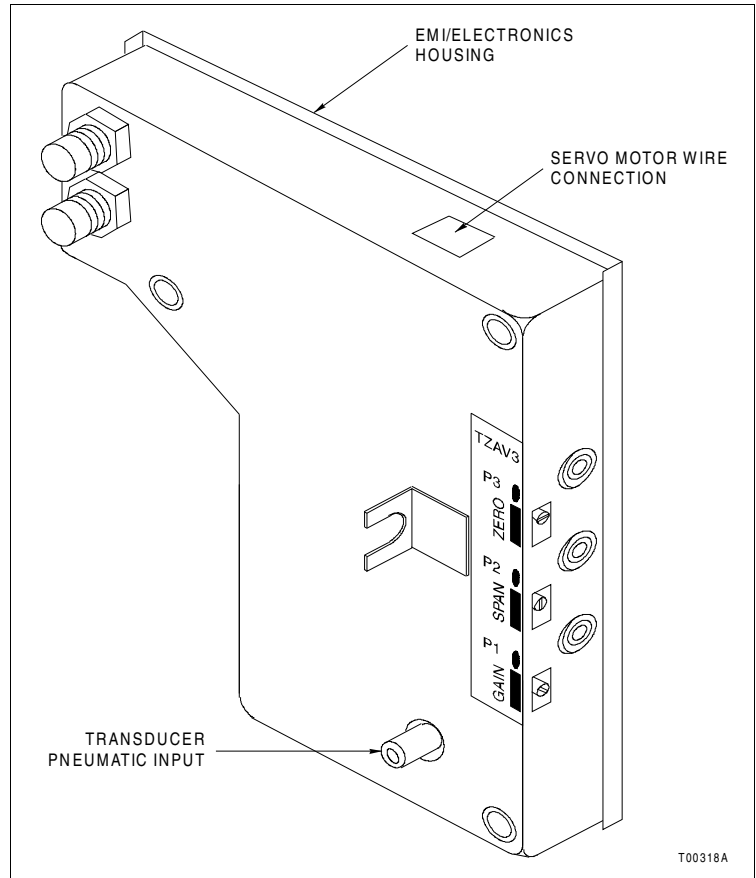

Figure 4-8. Type AV3 Positioner EMI/Electronics Housing
- a. a. Disconnect the servo motor wires from the EMI/electronics housing (Fig. 4-8).
- b. Set the input current to 4 mA and record the setpoint voltage across P2 and P3 (Fig. 4-8).
- d. Apply a reference pressure to the transducer of the EMI/electronics housing (Fig. 4-8). Do not exceed 138 kPa (20 psig). Adjust the reference pressure to 20.3, ± 1.7 kPa (3.00, ± 0.25 psig). Connect the digital voltmeter across P1 and P3 (feedback voltage) and turn the ZERO potentiometer (Fig. 4-8) until you match within 8 mV of the setpoint voltage recorded across P2 and P3 in Step 6b.
- a. Apply 20 mA and observe the pressure at port I. Increase the gain by adjusting the GAIN potentiometer (clockwise), until oscillation occurs (Fig. 4-8).
- b. Decrease the gain by adjusting the GAIN potentiometer (counterclockwise) until oscillation stops (Fig. 4-8). Then decrease gain another half turn.